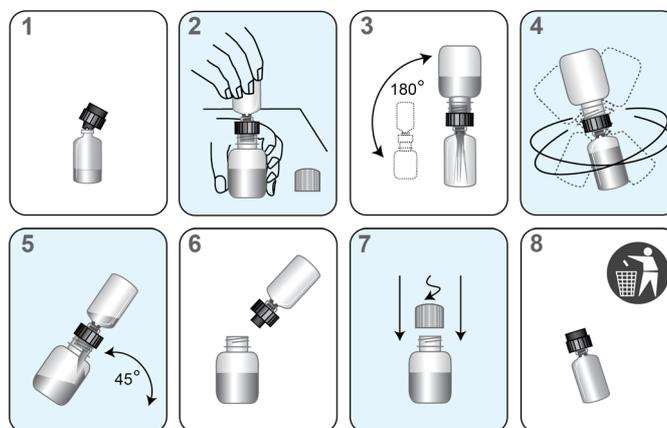

Figure 2. Reconstitution Process
- b. Open the dried reagent vial and firmly insert the notched end of the reconstitution collar into the vial opening (Figure 2, Step 1).
- c. Open the matching reconstitution solution, and set the cap on a clean, covered work surface. While holding the solution bottle on the bench, firmly insert the other end of the reconstitution collar into the bottle opening (Figure 2, Step 2).
- d. Slowly invert the assembled bottles. Allow the solution to drain from the bottle into the glass vial (Figure 2, Step 3). Wait for the lyophilized reagent to go into solution, then gently swirl the solution in the glass vial to mix. Avoid creating foam while swirling the bottle (Figure 2, Step 4).
- e. Invert the assembly and tilt at a 45° angle to minimize foaming (Figure 2, Step 5). Allow all of the liquid to drain back into the plastic bottle.
- f. Remove the reconstitution collar and glass vial (Figure 2, Step 6).
- g. Re-cap the plastic bottle (Figure 2, Step 7). Record operator initials and reconstitution date on all reconstituted reagent vials. Be sure to record the analyte (PCA3 or PSA) on the Probe Reagent vials.
- h. Discard the reconstitution collar and glass vial (Figure 2, Step 8).